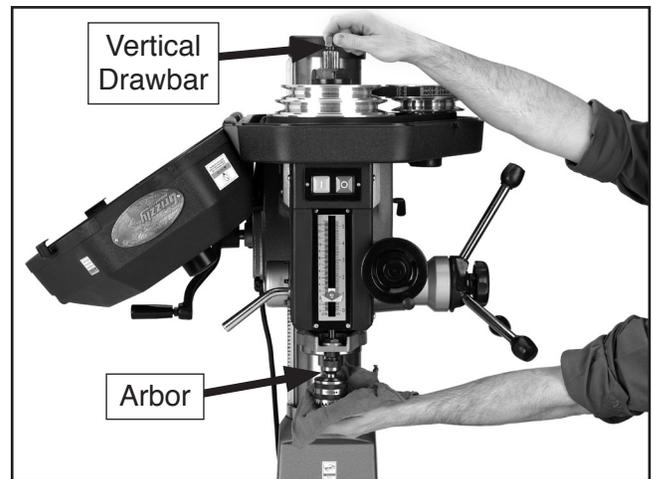

Figure 20. Collet arbor installation.
2. Insert the collet or cutting tool's arbor up into the spindle housing. Rotate the collet or arbor to line up the keyway with the matching pin in the spindle opening (**Figure 20**).